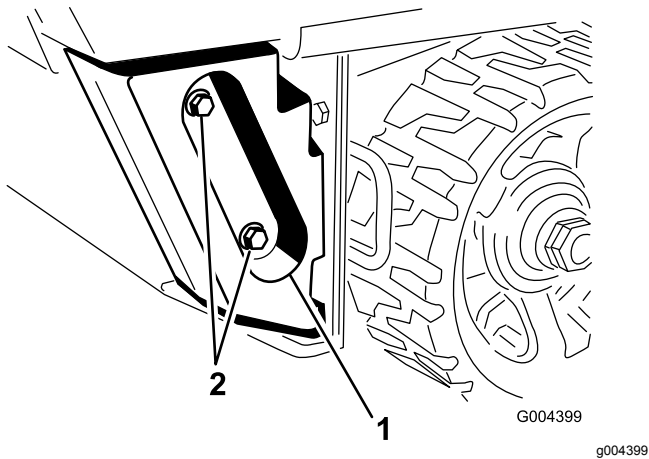

Figure 1
3. If you are installing this kit on a TX 400 series traction unit, remove the counterweights and their fasteners from the rear of the traction unit and store them in a safe location (Figure 1).